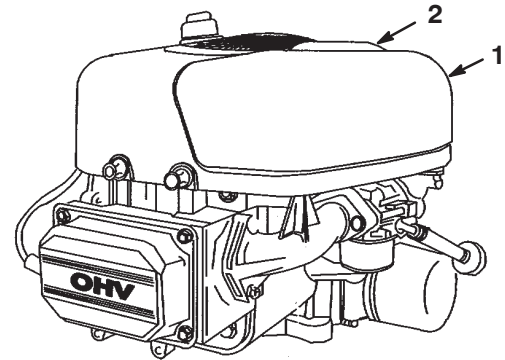

Figure 18
4. Clean around the air cleaner to prevent dirt from getting into the engine and causing damage. Pull up on the air cleaner cover handle and rotate it toward the engine (Fig. 18). Remove the air cleaner cover.